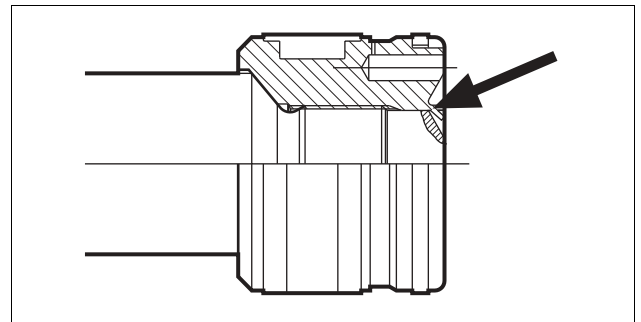

Fig. 27 Loosen the lock in the piston
- 11.** Loosen the lock in the piston. *See Fig. 27.*